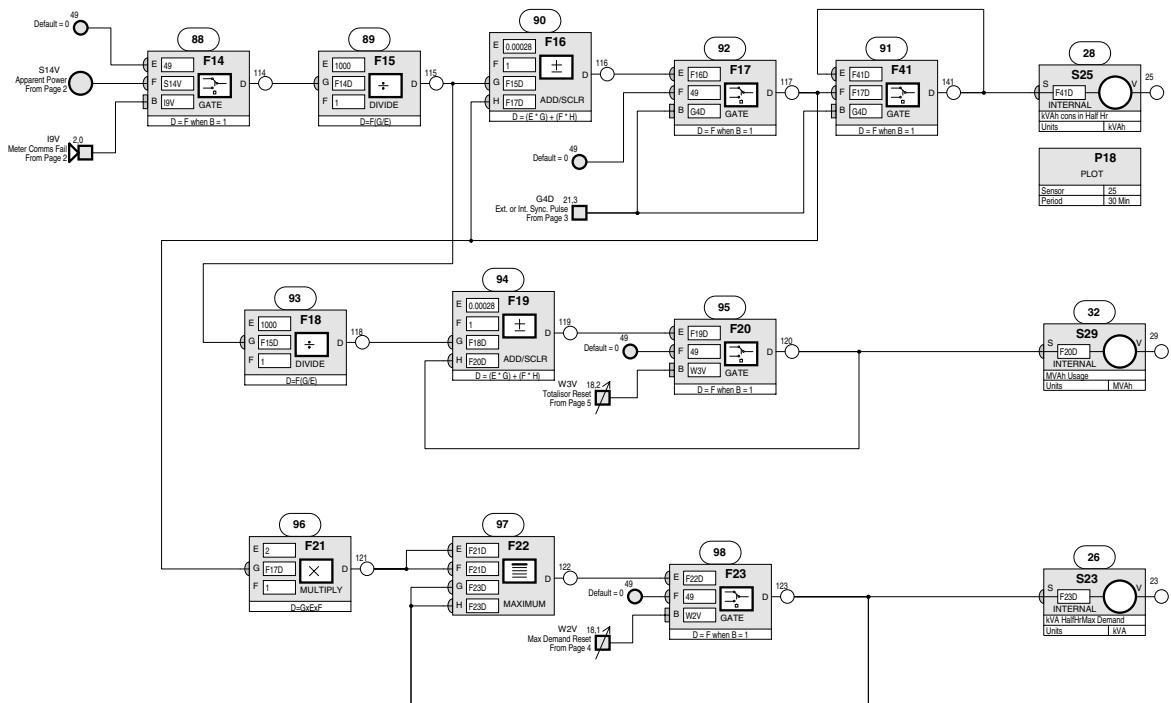

Fig 4. kVA Half Hour Maximum Demand
In Fig. 4, F14 will normally gate through S14, Apparent Power (VA), but if the meter communications fail, it will gate through zero. The active power is divided by 1000 by F15, and then multiplied by 0.00028 (divided by 3600 - correct to 5 places after decimal point) within F16. The division by 3600 is to convert the kVA value into kVAh consumed per second, and then F16 and F17 together add this to the accumulating kVAh total every second. F41 is serviced before F17, so when the sync pulse occurs F41 passes the total through to S25, and F17 then passes through zero which clears the total for the start of the next period. The total, 'kVAh cons in Half Hr' is monitored by S25; it will only show the total accumulated before the last sync pulse. The apparent power from F15 (kVA) is divided by 1000 by F18 and then multiplied by 0.00028 (divided by 3600 - correct to 5 places after decimal point) within F19. The division by 3600 is to convert the MVA value into MVAh consumed per second, and then F19 and F20 together add this to the usage total every second to produce the totalised MVAh Usage monitored by S29. Switch 3 (W3), the Totalisor Reset, causes F20 to gate through zero which resets the MVAh Usage. F21 multiplies the half hour consumption by two to give a true kVA power value. F22 passes this value through if it is greater than the previous maximum held by the F22/F23 combination. This produces the 'kVA HalfHrMax Demand' which is monitored by S23. Switch 2 (W2), Maximum Demand Reset, causes F23 to gate through zero which resets the kVA HalfHrMax Demand.